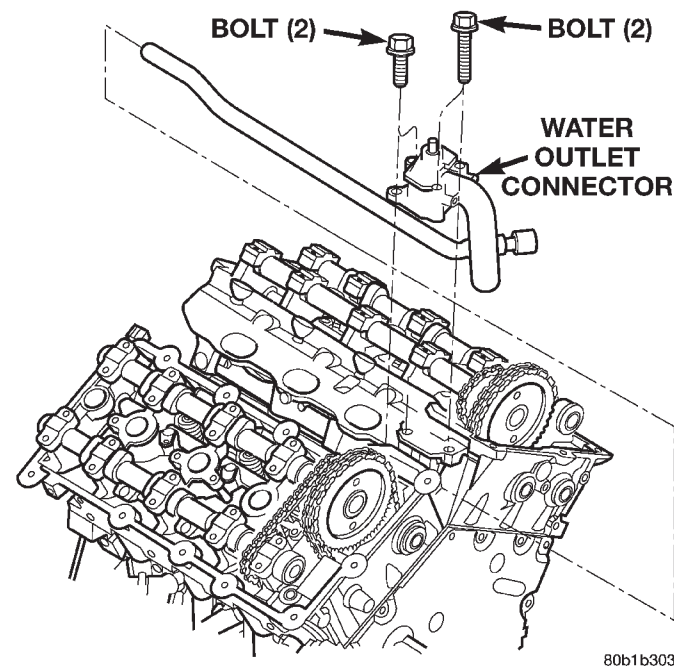
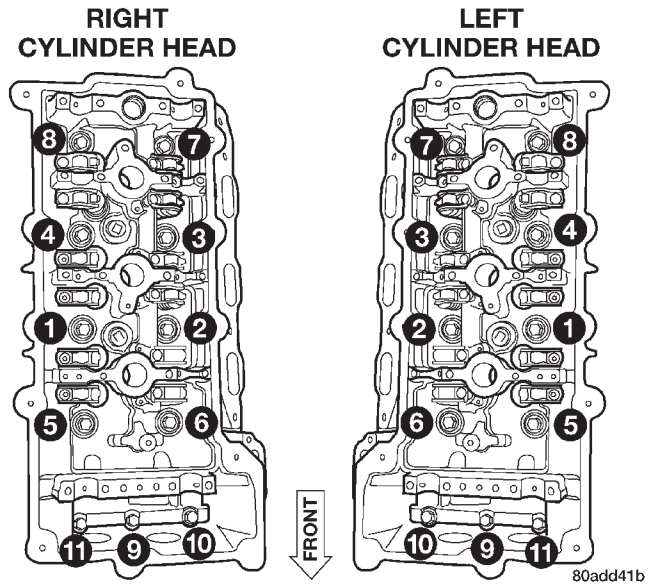

Fig. 45 Water Outlet Connector
Fig. 47 Cylinder Head Tightening Sequence
(1) Perform fuel pressure release procedure **before attempting any repairs**. Refer to Group 14, Fuel System for procedure.
(2) Disconnect negative cable from remote jumper terminal.
(3) Drain cooling system and remove A/C and accessory drive belts. Refer to Group 07, Cooling System.
(4) Remove crankshaft damper.
(5) Remove intake plenum and lower intake manifold. Refer to Group 11, Exhaust and Intake Manifold for procedure.
(6) Remove cylinder head cover and timing chain cover. Refer to procedure outlined in this section.
(7) Remove water outlet connector (Fig. 45). Refer to Group 07, Cooling System for procedure.
CAUTION: Ensure cylinder head bolts 11 – 9 (Fig. 47) are removed before attempting the removal of cylinder head, as damage to cylinder head and/or block may occur.
(12) Remove cylinder head bolts in reverse sequence of installation (Fig. 47) starting with bolts 11 – 9, then bolts 8 – 1.
(13) Remove cylinder head(s).
(1) Clean sealing surfaces of cylinder head and block.
(2) Install new head gasket over locating dowels.
(3) Install cylinder head to block, assuring head is properly positioned over locating dowels.
(4) Lubricate bolt threads with clean engine oil and install bolts.
(5) Tighten bolts in sequence shown in (Fig. 47), using the following steps and torque values:
(6) Install camshafts. Refer to procedure outlined in the section.
(7) Install timing chain and sprockets. Refer to procedure outlined in this section.
(8) Install water outlet connector (Fig. 45). Refer to Group 07, Cooling System for procedure.
(9) Install cylinder head covers. Refer to procedure outlined in this section.